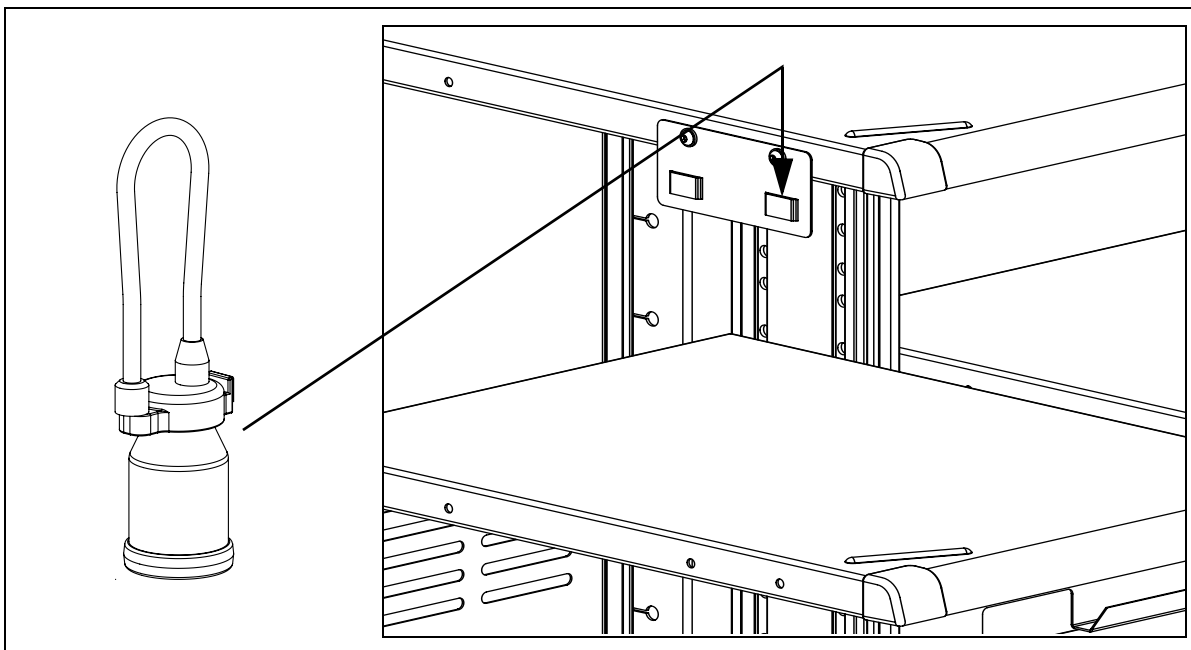

**Figure 4.6**
1. The WM-DP1 mobile workstation is fitted with a water container bracket to hold two water containers (not supplied). The water container simply clips onto the bracket as shown in Figure 4.6.